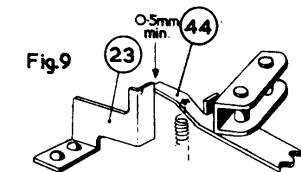

Fig. 9
- (f) When the switch lever is in the "on" position, the idler wheel bracket 44 should be at least 0.5 mm. from the stop bracket 23 on the mounting plate (see Fig. 9). Use vernier calipers as described above to ensure that the idler wheel is in its normal operating position while making this check.